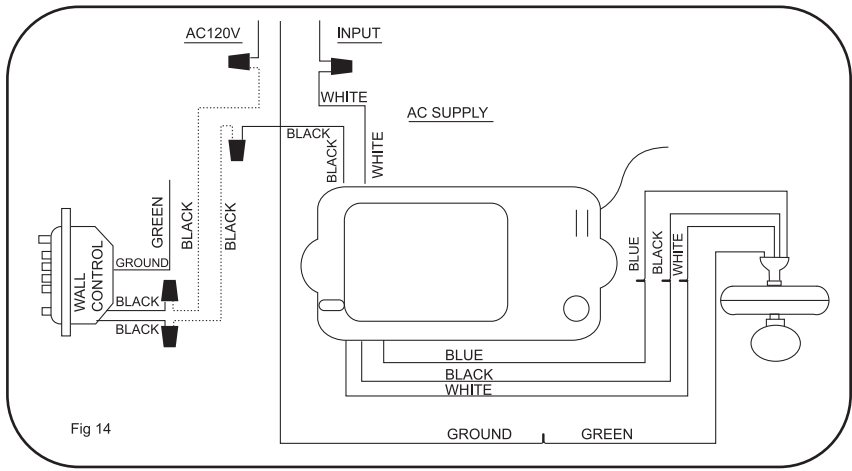

Fig 14
Step 2. Make the electrical connections as shown in Fig 14. If your outlet box has a ground wire (Green or Bare Copper) connect the Transmitter's ground wire directly to one of the screws from the outlet box. Secure all wire connections with the plastic wire nuts provided.